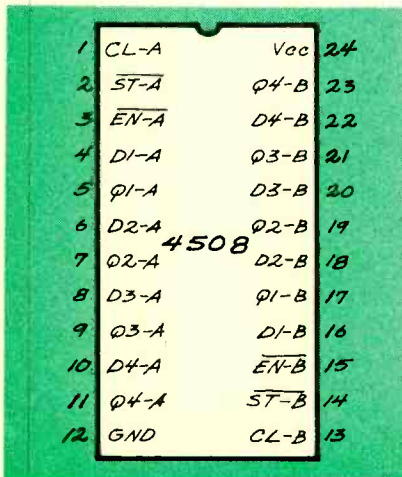

FIG. 2—AN EIGHT-BIT LATCH can be formed by tying together the two control pins of a CD4508B dual four-bit latch.
To provide an approximate reference, the approximate or average levels of common sounds are shown in Fig. 2.
*Q. Fig. 2 shows that classical music can become quite loud also. Why isn't it as dangerous to human hearing as rock music or disco sound?*
The simplest solution is with a 4508 dual 4-bit latch whose pinout diagram is shown in Fig. 2. By tying the control pins of each half of the latch together, I can use it as a single eight-bit latch.